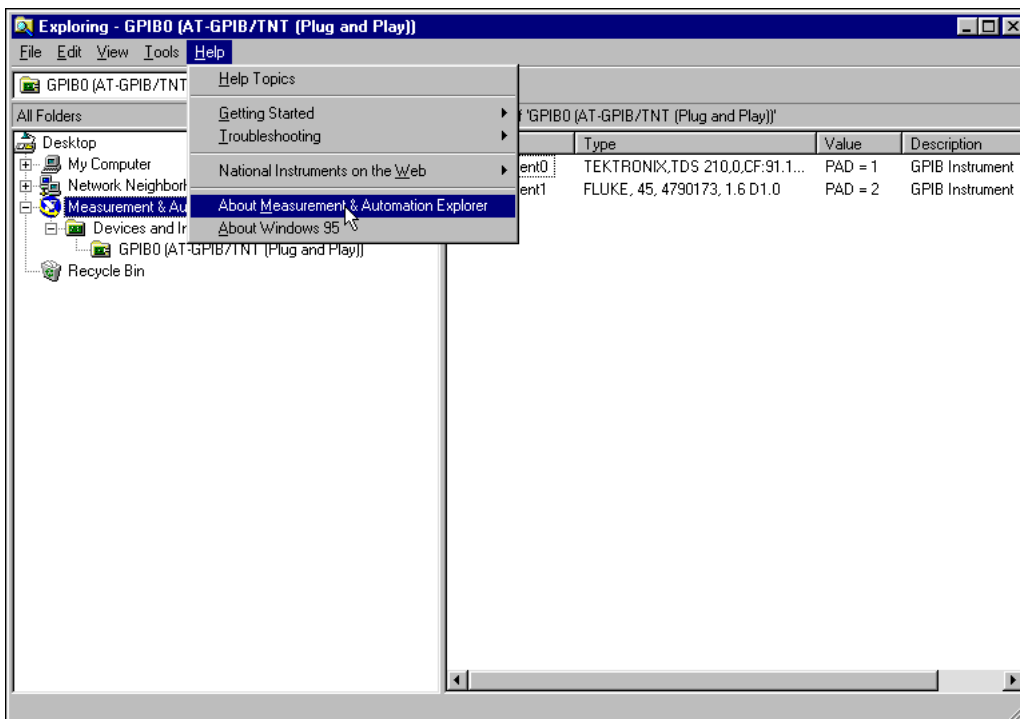

Figure 2-11. Select About Measurement & Automation Explorer
1. Select **Measurement & Automation** in the left window frame of Measurement & Automation Explorer, then choose **Help»About Measurement & Automation Explorer**, as shown in Figure 2-11.